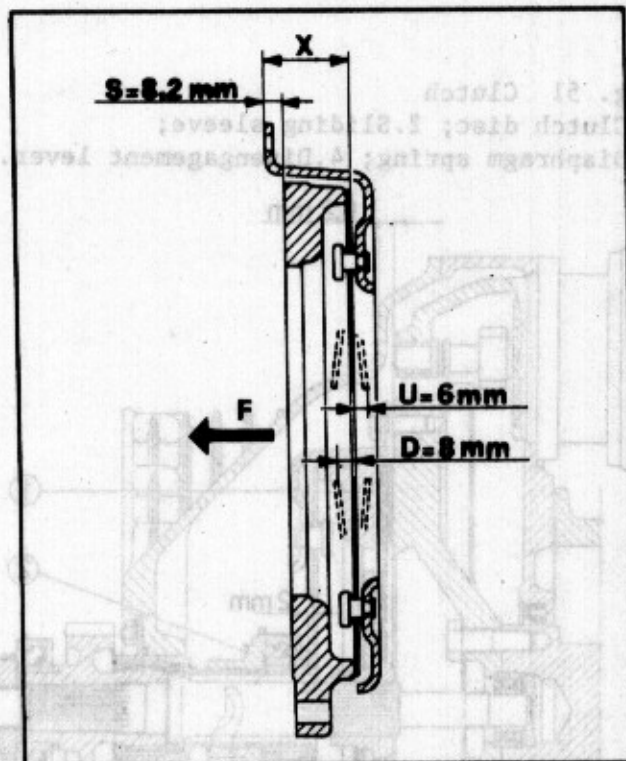

Fig. 52 Clutch support disc unit check diagram.
--Before reinstalling the clutch unit into the car, place the clutch cover on a flat surface (to duplicate the engine flywheel surface). Place a ring 8.2 mm. thick (fig. 52), which duplicates the driven disc; then with a 500 Kg. pressure on the clutch disengagement flange in direction F, submit the unit to four gear disengagements. In the above operation, check that:
--In one gear disengagement D (fig. 52), its travel of 8 mm. corresponds to a disconnecting distance of the pressure plate of 1.4 mm.